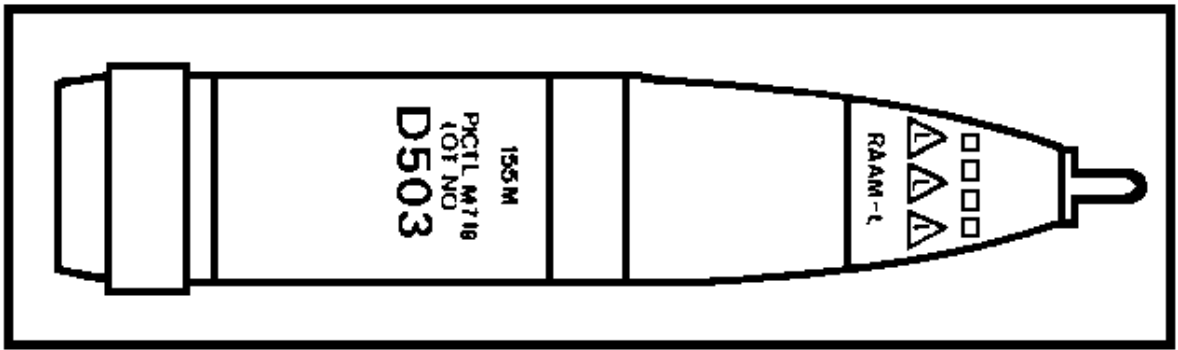

Figure 18. M718 projectile.
(10) Projectile, 155-mm, HE, RAAMS M718. This projectile is used to deliver high-explosive antitank mines in front of enemy armored forces to deny or delay access to a particular area for a specific time period. This projectile is from the family of scatterable mines and is known as the remote antiarmor mine system. It is painted olive drab with yellow markings. The most significant markings are the row of yellow triangles, which contain the letter L, between the nose and the bourrelet and RAAM-L on the ogive, which indicates the long self-destruct time for the submunition (Figure 18). This is a base-ejection type projectile and uses the M577 MTSQ fuze.